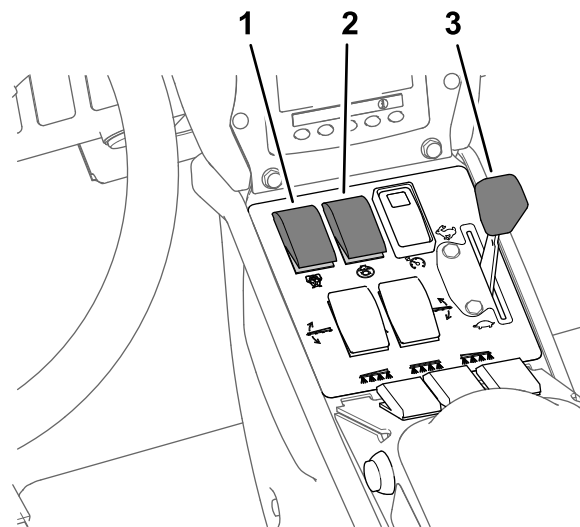

Figure 42
8. Set the agitation switch and the spray-pump switch to the ON position (Figure 42).
9. Set the throttle to the FAST position (Figure 42).
Note: This procedure assumes that the spray pump is on; refer to Figure 42 in Spraying in the Application Rate Mode (page 34).
4. Adjust the throttle to the desired engine speed to spray; refer to Figure 42 in Spraying in the Application Rate Mode \(page 34\).